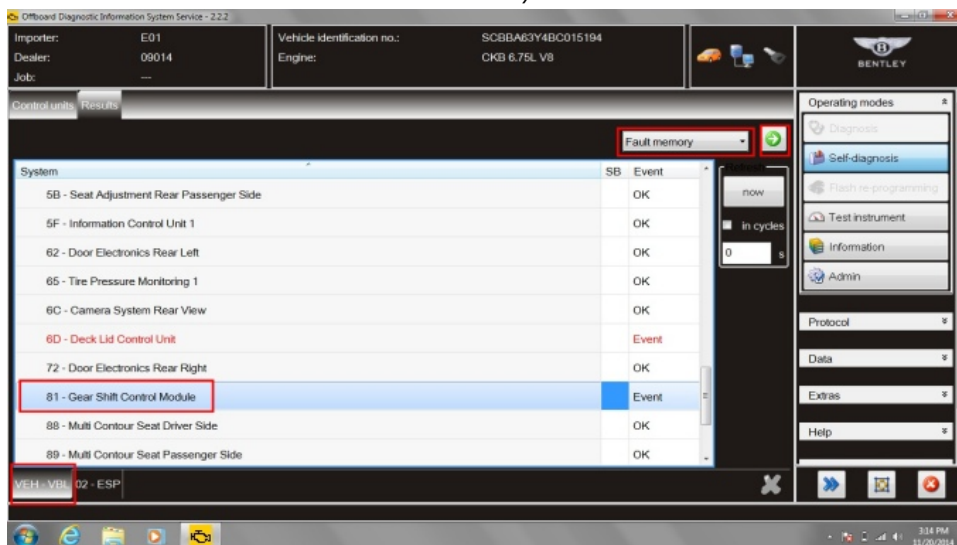

Figure 4
5. Select VEH – VBL tab - select (single touch) 81-Gear Shift Control Module - in drop down menu Select *fault memory* and then green forward arrow (see Figure 4)